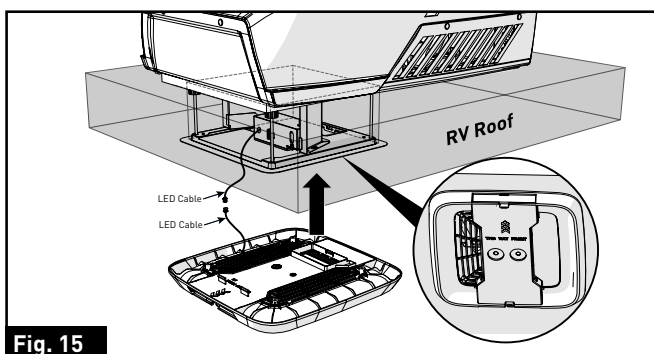

Fig. 15
17. Connect the LED cable from the ADB shroud to the control box. (Fig. 15)